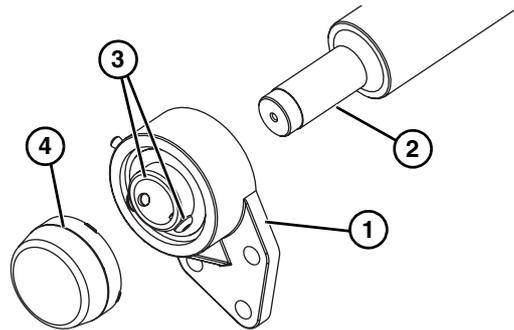

Figure 97
1. Slide the bearing flange assembly (Figure 97, item 1), onto the spindle shaft end (Figure 97, item 2).
2. Use a hex wrench to tighten the bearing shaft assembly fasteners (Figure 97, item 3).
3. Install the bearing cover (Figure 97, item 4).